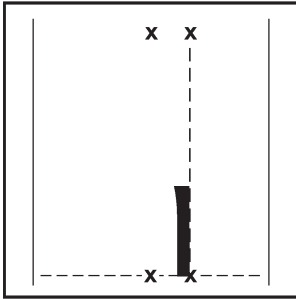

Figure 52
- Lay out the curve arrow base (liner still on) with the RIGHT edge along the chalk line and the base along the base line (see Figure 52).